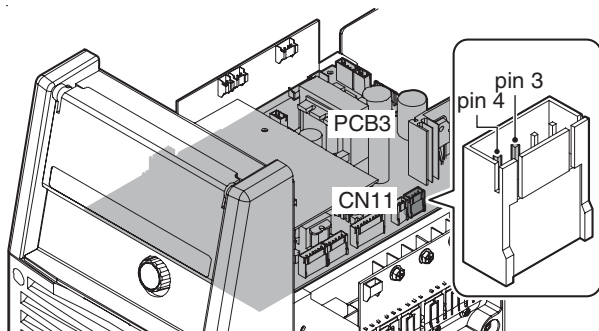

Figure 6-13: Verification of the SOL1
1. Verify the voltage between the PIN 3 (Positive [+]) and PIN 4 (Negative [-]) of connector CN11 on PCB3 (WK-5548) while you press the torch switch while in TIG Mode. (The capacity of the voltmeter should be more than 50VDC.) The location of connector CN11 of PCB3 (WK- 5548) is indicated in Figure 6-13. When you measure the above voltage, do not remove the connector. Conduct the measurement while the connector plug and receptacle are still connected.